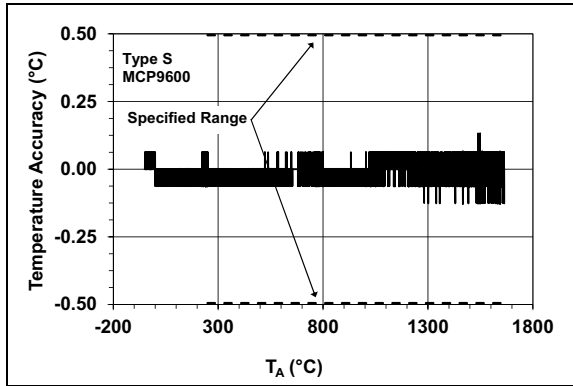

FIGURE 2-7: Typical Temperature Accuracy from NIST ITS-90 Database, Type S.
- 3:** The device measures temperature below the specified range, however, the sensitivity to changes in temperature reduces exponentially. Type R and S measure down to $-50^\circ C$, or -0.226 mV_{EMF} and -0.235 mV_{EMF} , respectively. Type B measures down to $500^\circ C$ or 1.242 mV_{EMF} (see Figures 2-7, 2-8, 2-10, 2-11, 2-14 and 2-17).